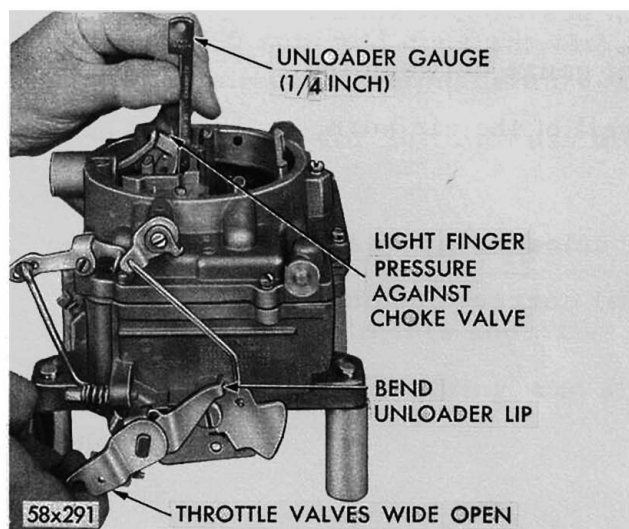

Fig. 3-Measuring & Adj. Chock Unloader (Fast Idle Kick)
(1) With the throttle valves in the wide open position, it should be possible to insert Tool T-109-31 (1/4 inch) gauge between the upper edge of the choke valve and the inner wall of the air horn, as shown in Figure 3.
(2) If an adjustment is necessary, bend the unloader lip on the throttle shaft lever, using Tool T-109-41, until correct opening has been obtained.